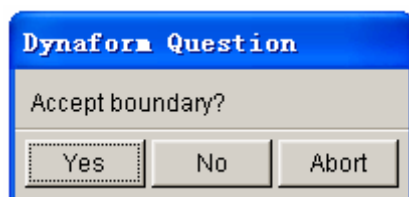
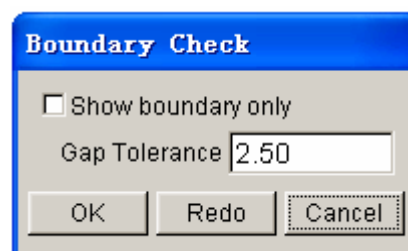

Figure 5.3.6 DYNAFORM Question
Figure 5.3.7 Boundary Check
- After building the topological structures, the eta/DYNAFORM Question dialog box, as illustrated in Figure 5.3.6 is displayed. Select YES to accept the boundary and continue to the next step. Select NO to display the BOUNDARY CHECK dialog box as illustrated in Figure 5.3.7.